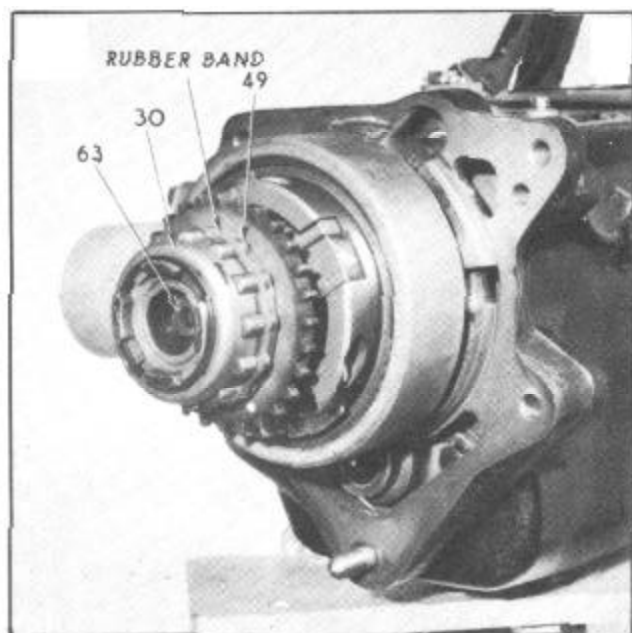

Figure 42--Installing Free-Wheel Cam Assembly
13. Install free-wheel cam assembly (30), Figure 42, on main shaft.
14. Grease free-wheel cam (30) and install rollers (49), holding in place with a rubber band. (Do not remove rubber band as this will dissolve in lubricant.)
15. Install free-wheel cam retaining bolt (63) and lock washer and draw up snug.